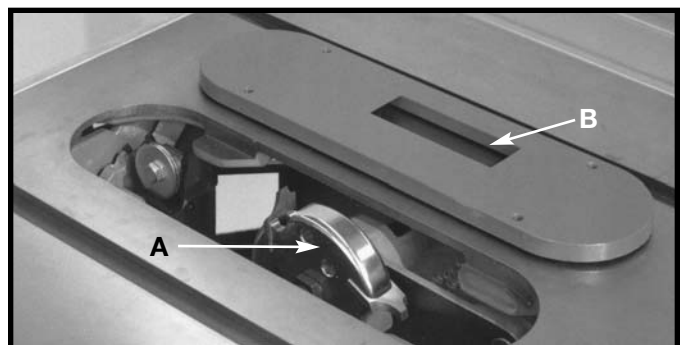

Fig. 83
1. A moulding cutterhead (A) Fig. 83 is shown assembled to the saw arbor. Also, the accessory moulding cutterhead table insert (B) must be used in place of the standard table insert.